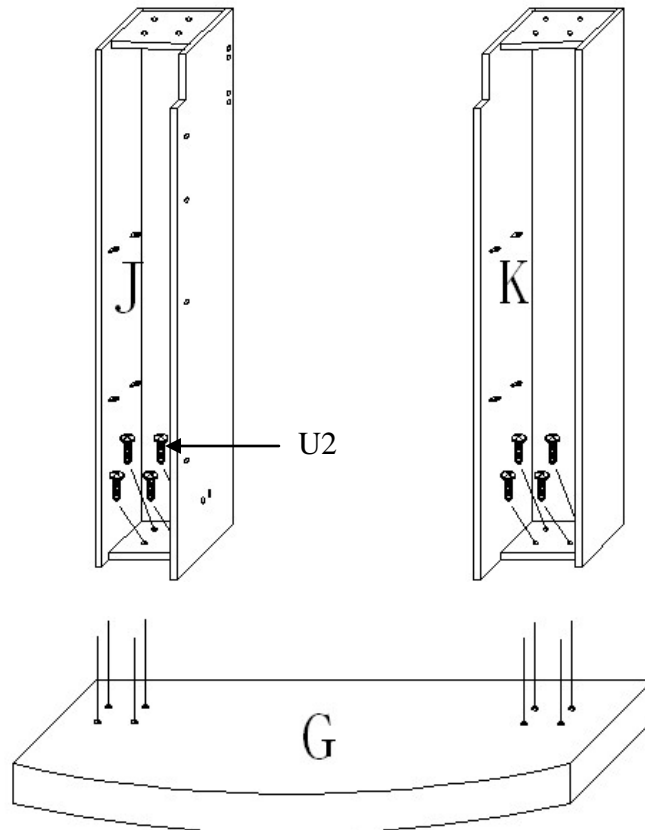

fig. 3
Step 3: Attach the Left and Right Cabinet (J & K) to the Base Panel (G) using 8pcs KD Screws (U2). See Fig. 3 below.